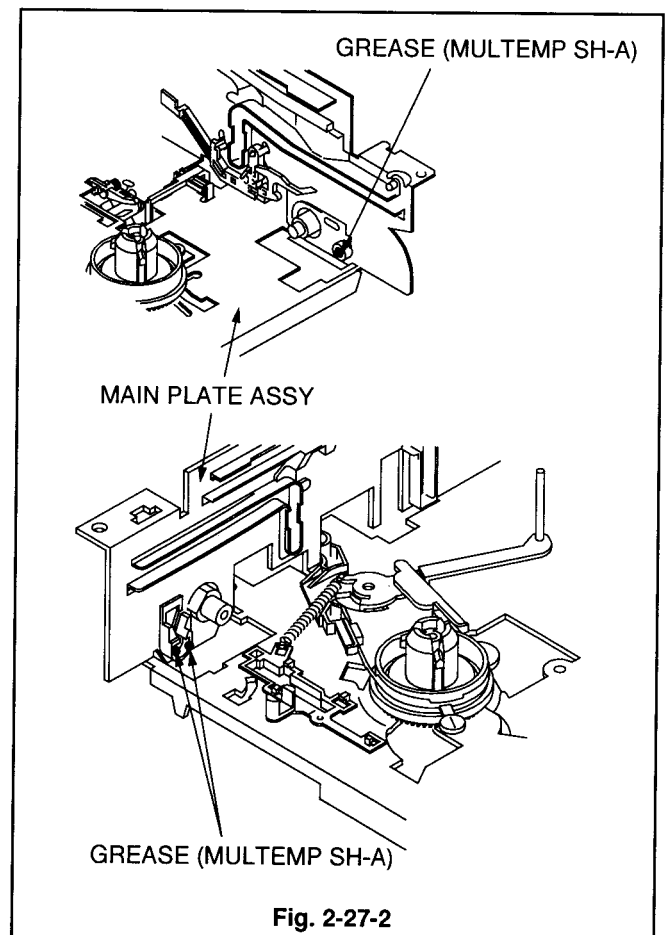

Fig. 2-27-2
- 1 Apply GREASE (MULTEMP SH-A) [859D055O80] to the area specified in Fig. 2-27-2 on the MAIN PLATE ASSY.